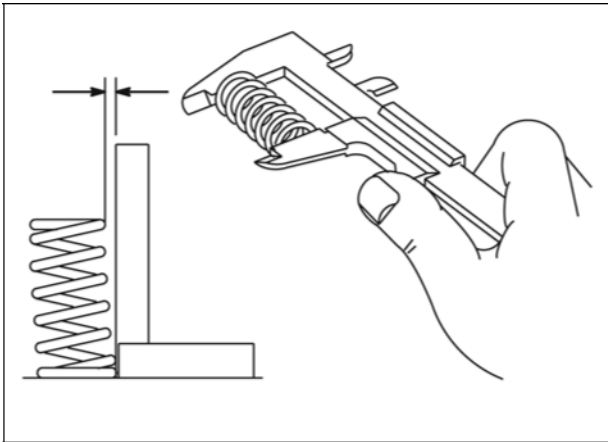

Figure 21
14. Inspect valve springs for squareness and free length (Figure 21).